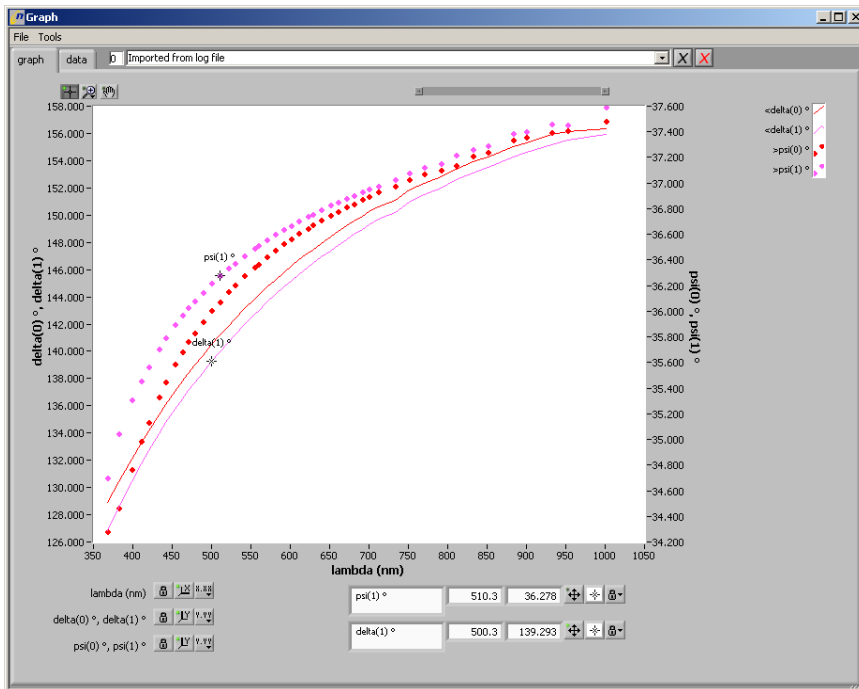

Fig. 4.5-2
- After the fit you can plot the delta-fit values and psi-fit values together with the delta and psi values in the window graph. If the measured and fitted values correspond the fit is ok (see Fig. 4.5-2)